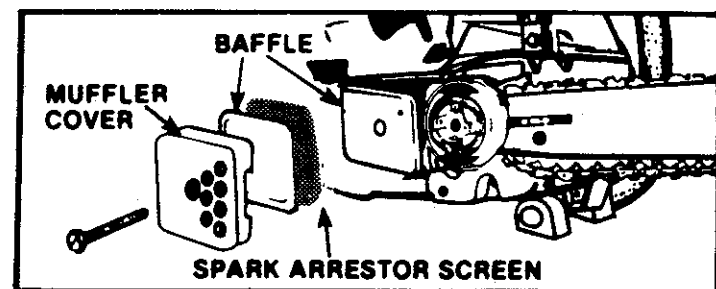

Figure 38
2. Remove the Muffer Cover. Figure 38.